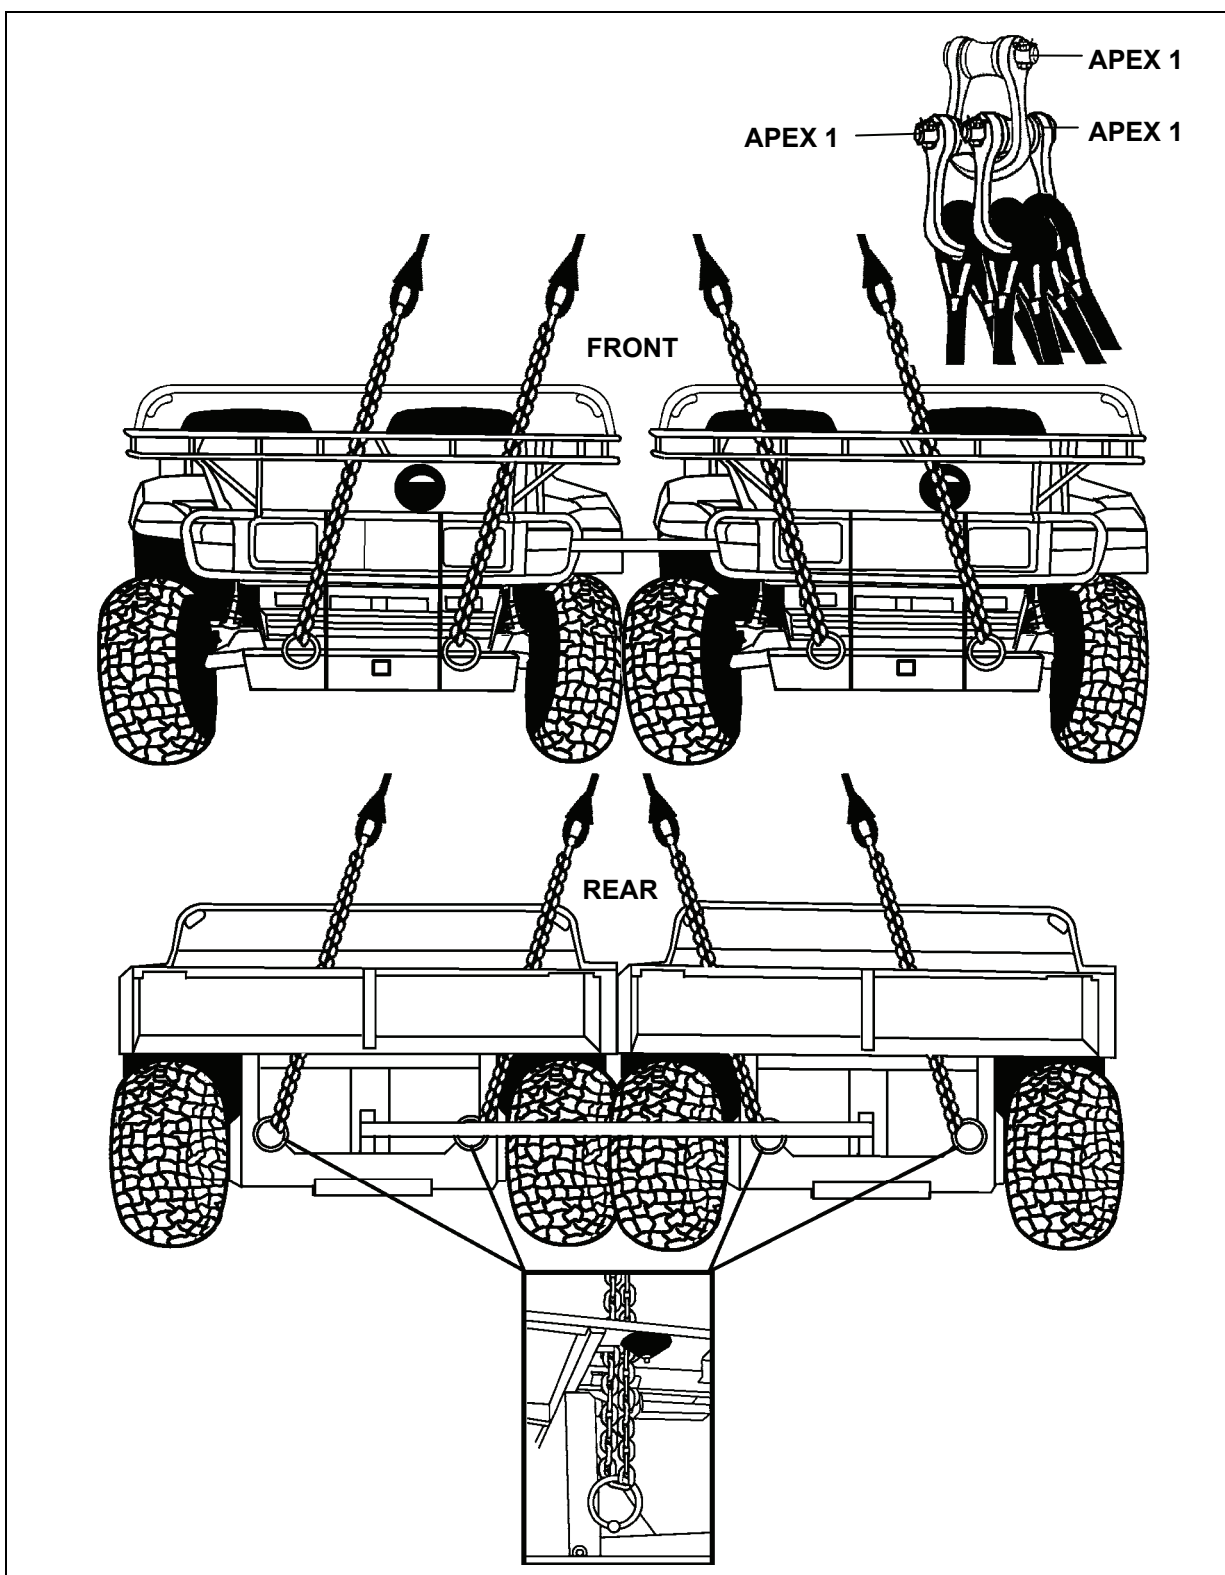

Figure 2-41. Two John Deere M-Gators (Model #VGM6X01001), Side by Side (Shotgun Method)
- **Rigging.** Rig the load according to the steps in Figure 2-41.